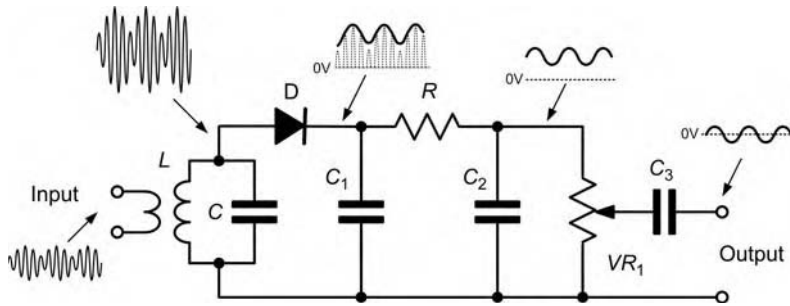

Figure 6.46 Diode detector (demodulator) circuit.
Diodes are frequently used as detectors (or more correctly *demodulators*) which provide us with a way of recovering the modulation from an amplitude (or frequency) modulated carrier wave. Figure 6.46 shows a simple amplitude modulation (AM) demodulator. This circuit is worth studying as it not only serves as an introduction to another common diode application but should also help you to consolidate several important concepts that you have learnt in Chapter 5!